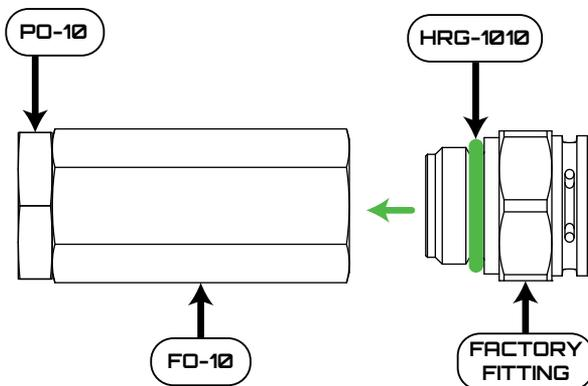

Figure 4 - Installing the Factory Fitting into FO-10
13. Assemble FO-10 and PO-10 from the E6G-680 Hardware Kit, as shown in Figure 4, then thread the factory fitting into FO-10. Torque all fittings to 20 lb-ft (27 N-m) using a vise and  $1\frac{1}{8}$  inch tool.